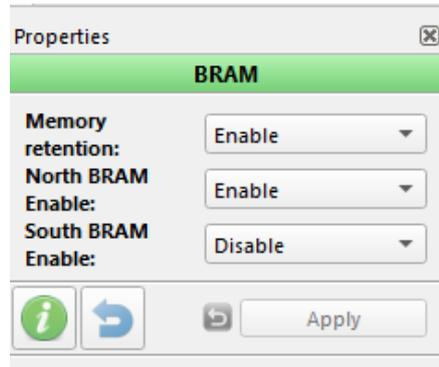

Figure 7. BRAM Properties
- 7) In the ForgeFPGA Workshop window, click on the BRAM block on the bottom. The user will then see the properties tab on the left side of the window. If it doesn't appear, then enable the Properties section by clicking on the Properties icon on the top toolbar. Inside the properties section make sure to enable the BRAMx that is being tested (North BRAM corresponds to BRAM_0, BRAM_1, BRAM_2 and BRAM_3 and similarly, South BRAM corresponds to BRAM_4, BRAM_5, BRAM_6 and BRAM_7). In the example, ensure that the North BRAM is enabled, and South BRAM is disabled. (See Figure 7)